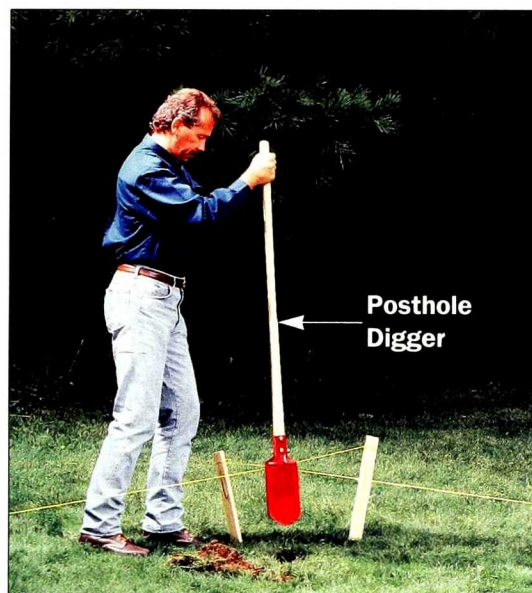

Figure 1: Begin by digging holes for the pre-cut corner and end posts. Strings and stakes mark the fence location, just inside your property lines.
- Dig the postholes with a clamshell-type posthole digger (Figure 1), making sure that the holes are flat and solid on the bottom.